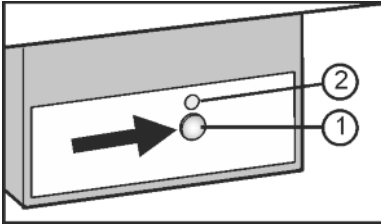

Fig. 12
- ▶ Press On/Off button Fig. 12 (1) so that the LED Fig. 12 (2) lights up.